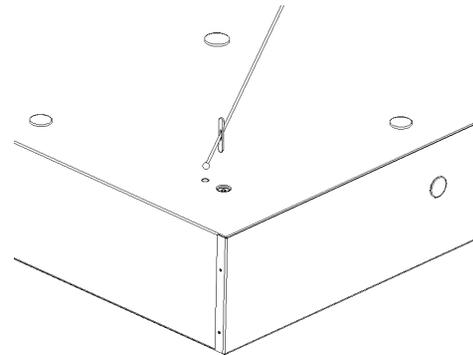

Figure 2
- Pull on each cable to make sure the toggle plates are securely in place. (Figure 2)